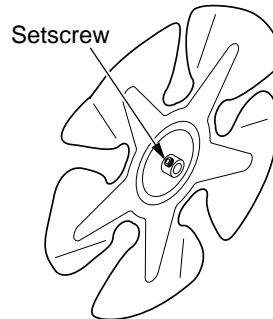

Figure 11 - Setscrew Location
3. Use hex wrench to loosen set screw which holds fan to motor shaft (see Figure 11). Remove fan. Be careful not to damage the fan blade pitch.
3. Use hex wrench to loosen set screw that holds fan to motor shaft (see Figure 11).